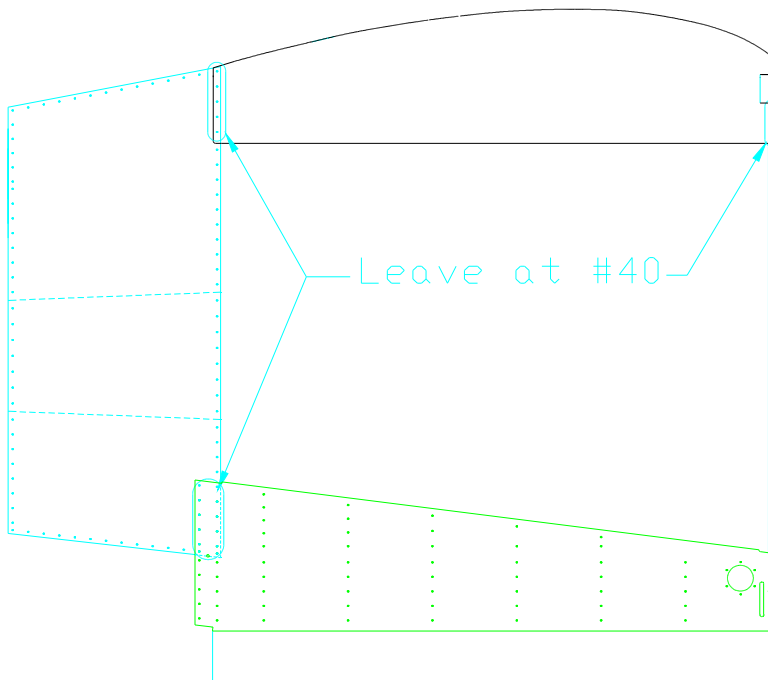

Figure 9.9.7
- 13) Drill all #40 holes to #30 except for the ones identified in Figure 9.9.7. **NOTE:** Also leave the forward and aft rows at #40 on the bottom skin (FUS-432).